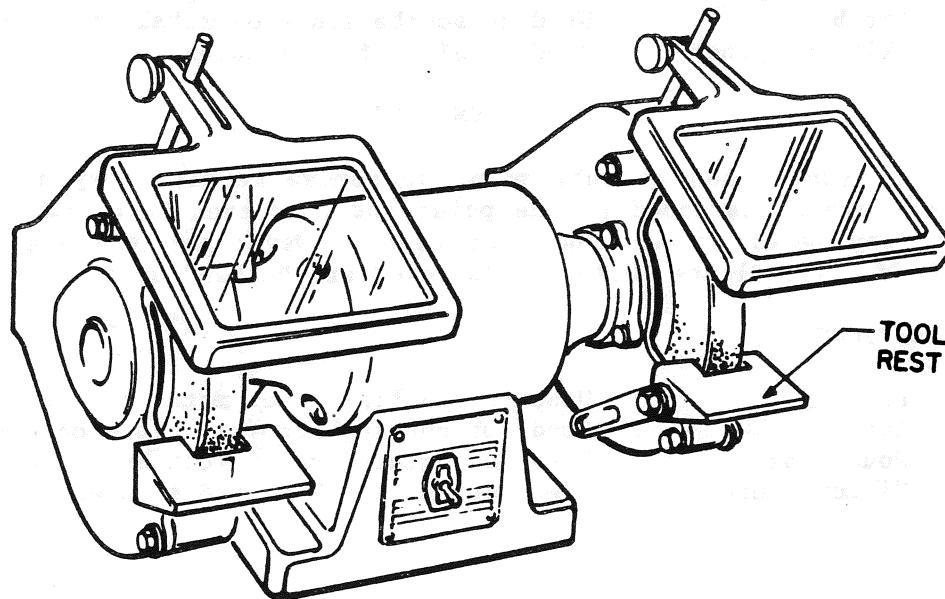

Figure 10.18. Bench Grinder
2. Make sure tool rest is close to grinder wheel (1/8 inch or less) (Figure 10.18).
7. Replace the wheel when it gets too small. (80% of its original diameter or when item 2 above is unattainable.)
8. Make sure eye shield is in place. (Figure 10.18)